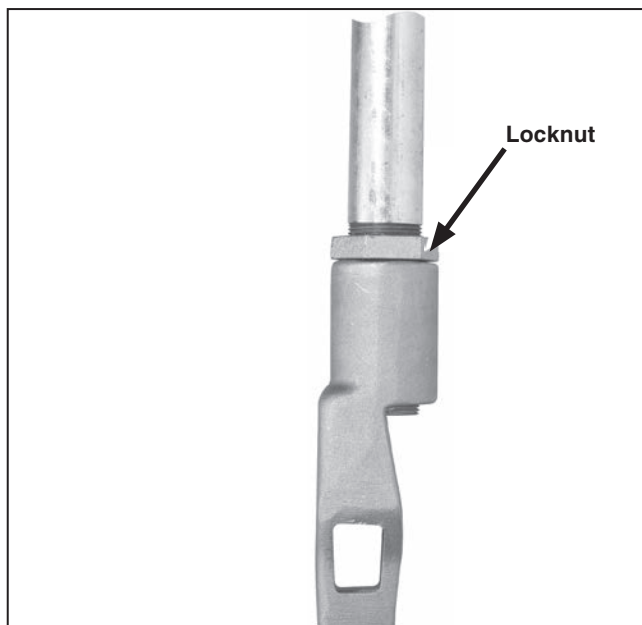

Figure 15. Installing the lowest operating pipe section into the operating handle assembly.
STEP 14. Install the lowest vertical operating-pipe section by threading one end of the pipe into the coupling on the operating handle assembly. Approximately ¼-inch (6 mm) of thread should extend through the coupling. Tighten the locknut. See Figure 15.